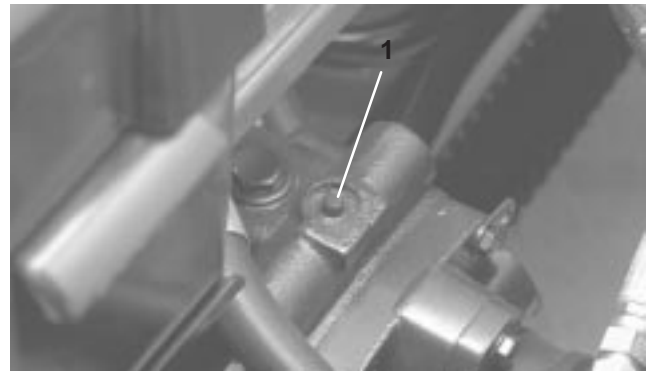

Figure 29
1. The bypass valve is located on top of variable displacement pump (Fig. 29). Rotate the valve 90°, in either direction, to open and allow oil to bypass internally. Because fluid is bypassed, the machine can be moved slowly without damaging the transmission.